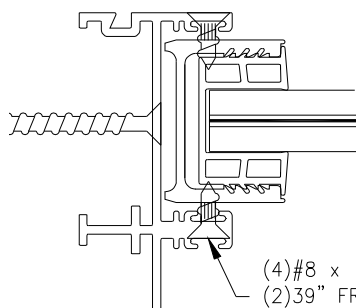

Figure 26:
- **“O” Panel** - Lift and move the panel into the fixed jamb as far as possible. Verify that the weather stripping in the frame head is located so that it contacts the width of the “O” panel. Add (4) #8 x 1/2” long flat head screws to all fixed panels (Figure 26). Screws shall be countersunk and located 39” from top and bottom.